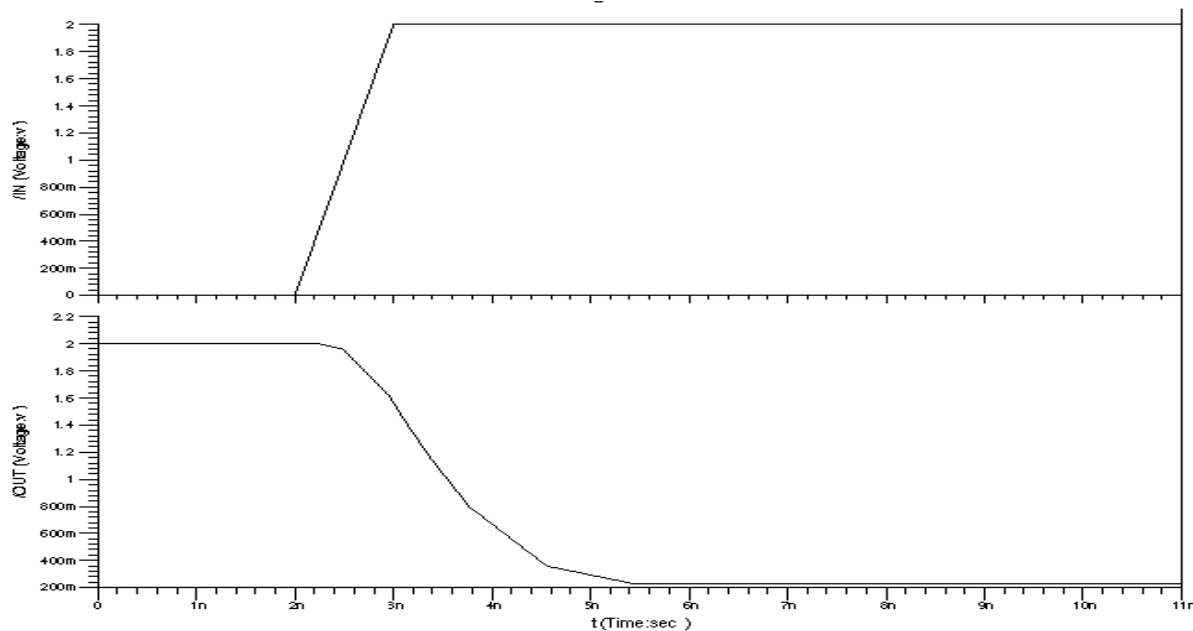

Figure 3. Input-Output waveform of the resistive load NMOS inverter
Now click on **Run**. You will see that the Simulation status changes to "Running" for a few seconds and goes back to its original NOT RUNNING status in the other window. You will have the output waveforms displayed like the one in figure 3.
(2) Output a plot for W/L=2 similar to Fig. 3. And using cursors to figure out what are the two delay times corresponding to this pulse. Cursors should be contained in your final plot to hand in. Are these two delays the same? If not, what is the possible reason?